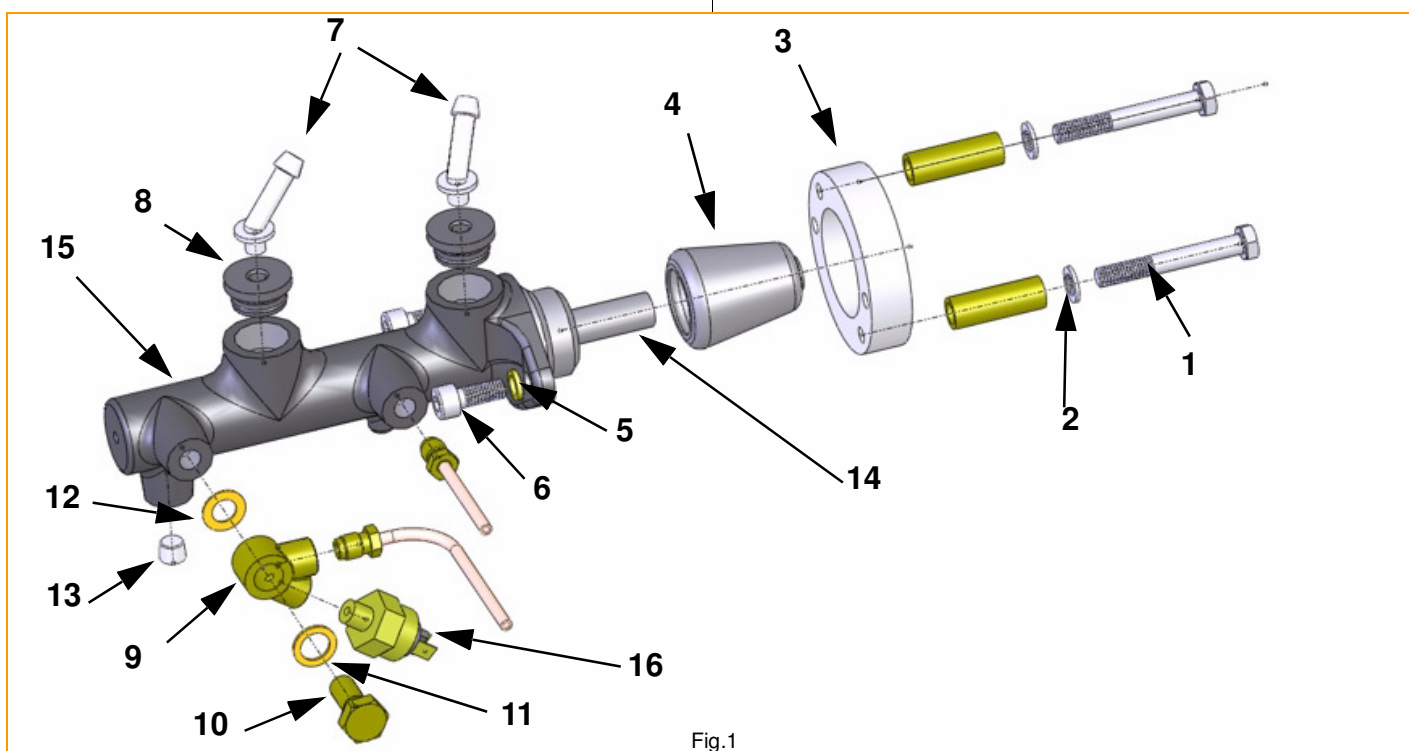

Fig.1
- Put some brake fluid on the outside of the rubber grommets (Pos.8, Fig.1), then push them into the master cylinder.
- Put also some brake fluid on the outside of the plastic elbow connectors (Pos.7, Fig.1), then push them into the rubber grommets.
- Plug the lower front hole in the master cylinder using the M10x1 pipe plug (Pos. 13, Fig. 1)
- Now install the brass banjo fitting (Pos.9, Fig. 1) using the banjo bolt with the two copper gaskets to the front side fitting of the master cylinder (max 20Nm).
- The brake light switch (Pos. 13, Fig. 1) need to be installed to the lower port of the banjo fitting. Make sure that the thread is pointing upwards to avoid any chance of air in the system.